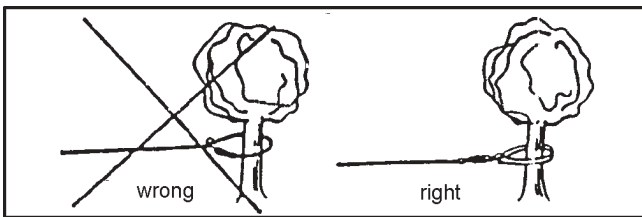

Figure 11-15. Incorrect and correct hook-up.
8. NEVER HOOK THE WIRE ROPE BACK ONTO ITSELF. Use a nylon sling. Hooking the wire rope onto itself can damage the rope (Figure 11-15).